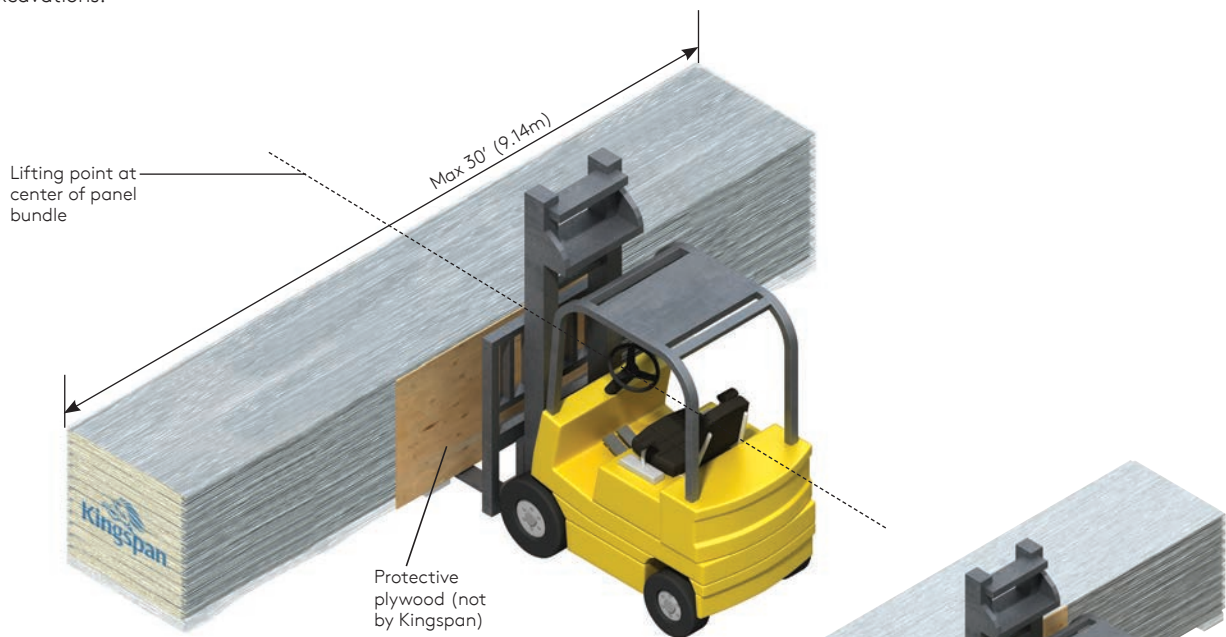
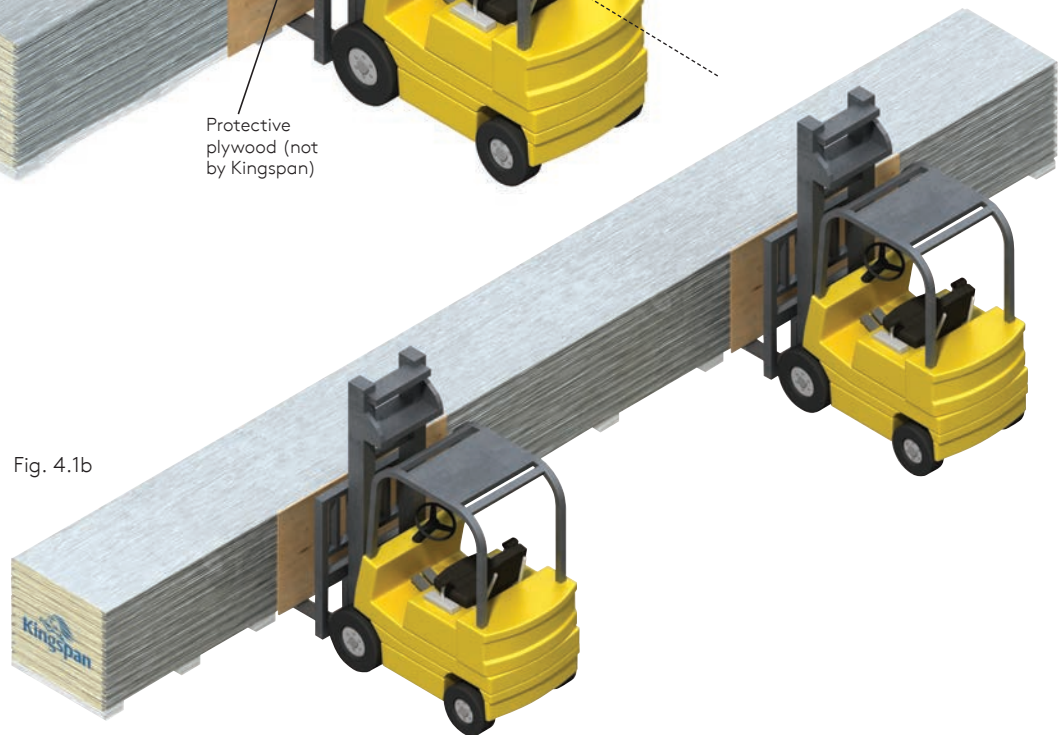

Fig. 4.1a
Fig. 4.1b
**4.1.1** The recommended loading / unloading method for bundles less than or equal to 30' is to use a single forklift with widely spaced forks placed under the center of the bundle as shown in Figure 4.1a. Panel bundles over 30' in length may be moved by using two forklifts spaced equally along the length of the bundle as shown in Figure 4.1b. Inspect travel route to assure a reasonable level and compacted surface free of ruts and excavations.